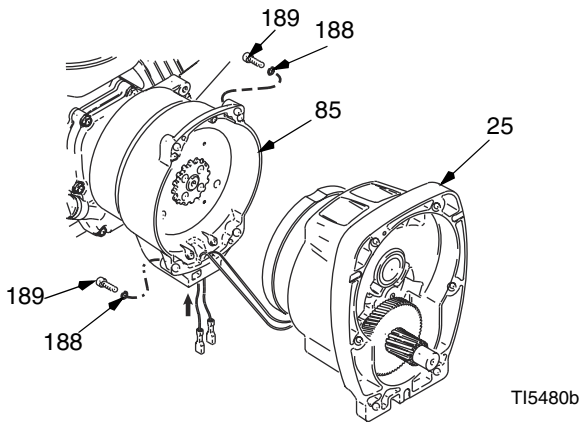
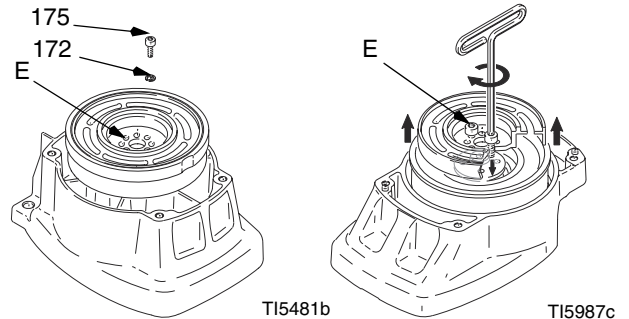

FIG. 4
FIG. 5
4. FIG. 4. Remove four screws (189) and lockwashers (188) and pinion assembly (25).
5. FIG. 5. Place pinion assembly (25) on bench with rotor side up.
6. Remove four screws (175) and lockwashers (172). Install two screws in threaded holes (E) in rotor. Alternately tighten screws until rotor comes off.
9. FIG. 5. Place pinion assembly on bench with rotor side up.
10. Apply thread sealant to screws. Install four screws (175) and lockwashers (172). Alternately torque screws to 125 in-lb until rotor is secure. Use threaded holes to hold rotor.
11. FIG. 4. Install pinion assembly (25) with five screws (189) and lockwashers (188).